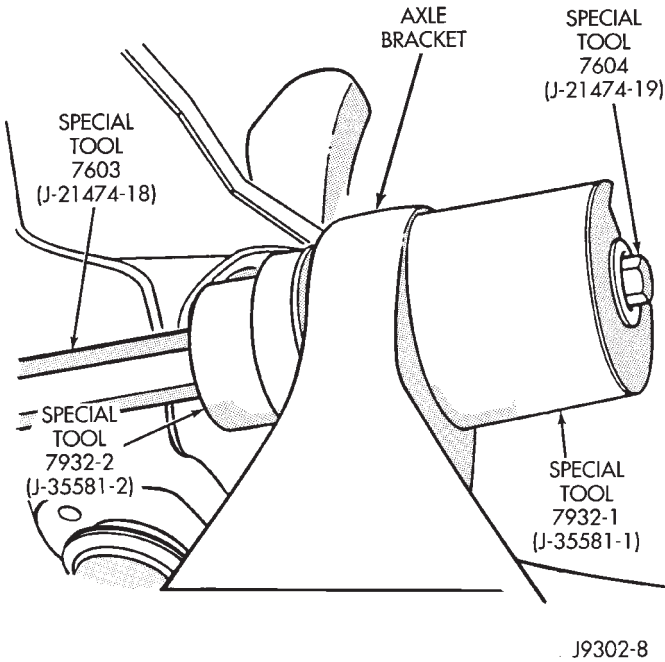

Fig. 6 Bushing Installation
- (1) Position new bushing, Receiver and Installer on axle (Fig. 6).
- (2) Install the bushing by tightening the Long Nut.
- (3) Remove tools and install the upper suspension arm.